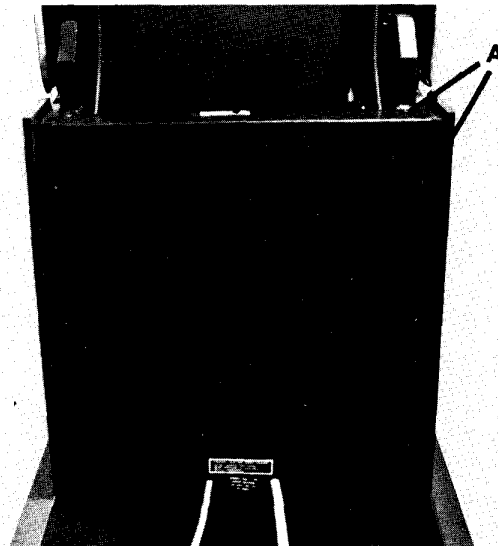

Fig. 12
- 1) Remove back shroud by removing (8) screws, Item A, Fig. 12. It is easiest to do this by first placing the Model 115 in a chair position.
- 2) Replace back shroud by placing the shroud in position, aligning holes, and installing (8) #10-24x $\frac{3}{8}$ " screws, Item A, Fig. 12.
- 1) Remove back shroud by removing (8) screws, Item A, Fig. 12.
- 6) Replace back shroud by placing the shroud in position, aligning holes, and installing (8) #10-24x $\frac{5}{8}$ " screws, Item A, Fig. 12.